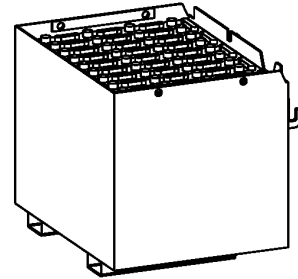

figure 2-78
(4) Hoisting for battery box See figure 2-78